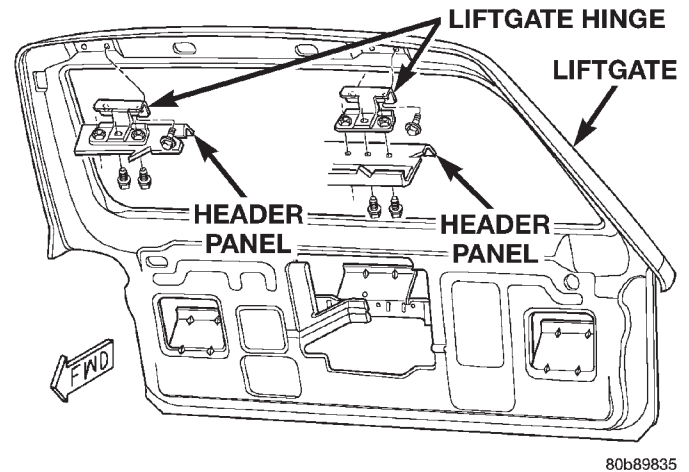

Fig. 89 Liftgate Hinge
- (1) Open and support the liftgate.
- (2) Remove the liftgate opening upper trim.
(3) Remove the bolts attaching the hinge to the header panel (Fig. 89).
(4) Remove the bolts attaching the hinge to the liftgate.